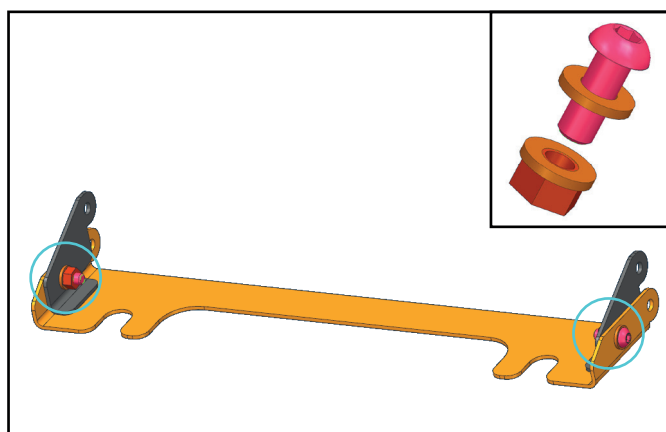

Fig. 56
54. Attach the left and right adjusting brackets (item 27,28) to the mounting bracket (part of license plate bracket) and fix it using screws M6x16 (item D), washers 6 (item N) and nuts M6 (item L) (fig.56).